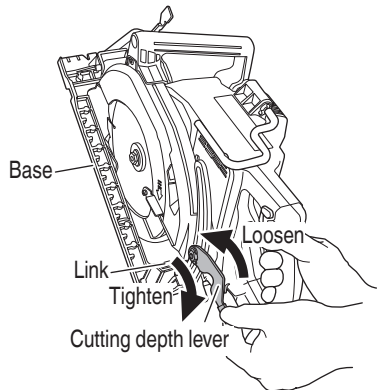
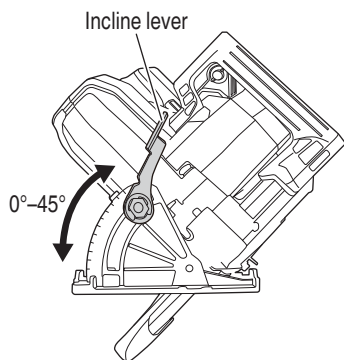

Fig. 21
Fig. 22
If the the cutting depth lever to adjust cutting depth (Fig. 21) and the incline lever to adjust angle of inclination (Fig. 22) are loose, injury can result. Make sure that they are tightened securely.
- 1. Adjusting the cutting depth (Fig. 21)
As shown in Fig. 22 by loosening the incline lever on the bevel scale, the saw blade may be inclined to an angle of 45° in relation to the base.
If the cutting depth lever (Fig. 21) is loose, injury can result. Make sure that it is tightened securely.